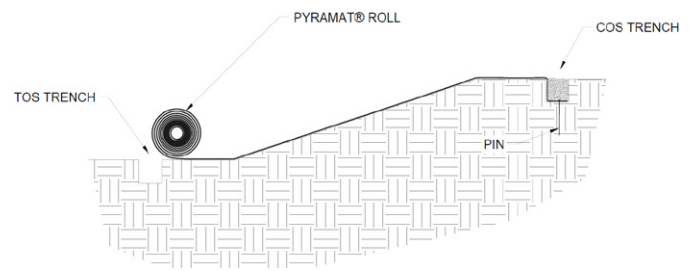

Figure 6: Placement of PROPER Pyramat across slope
5. Unroll the material roll on the slope surface in the area to be armored (Figure 6). Ensure that **PROPEX** Pyramat has intimate contact with the ground and all irregular surfaces beneath it are removed.